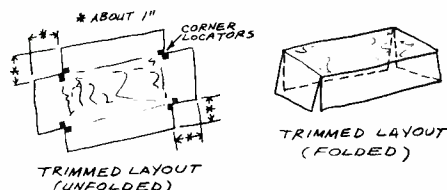
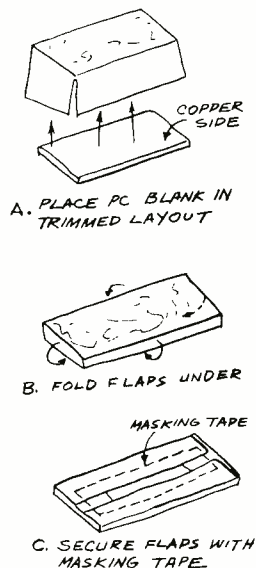

Fig. 4. Trim and fold final artwork as illustrated here.
Fig. 5. Cover pc blank with trimmed artwork (A), fold flaps under (B), secure with tape (C).
**Making the PC Board.** Trim and fold your final layout as illustrated in Fig. 4. Then cut the pc blank to the exact size of the folded guide and remove any burrs from the cut edges with a file. Fold the guide over the pc blank with the copper side of the blank directly under the guide. Secure the loose tabs of the guide to the blank side of the pc blank with masking tape (Fig. 5).